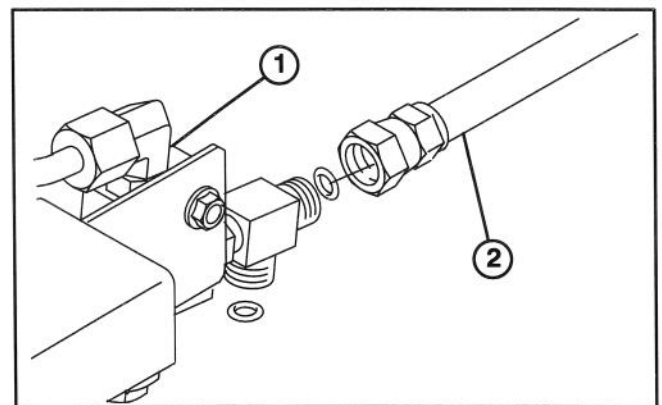

Figure 18
31. Connect hydraulic hose from filter "IN" port to auxiliary relief valve tee fitting (Fig. 18)